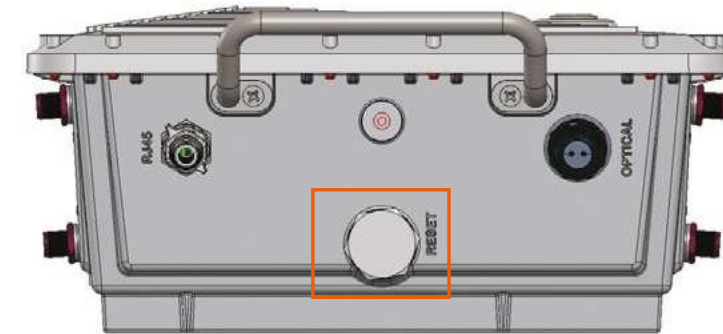

Figure 33: M32 end cap
- Remove the M32 end cap as shown in *Figure 33*.
- Reinstall the end cap as shown in *Figure 33* and *Figure 34*.